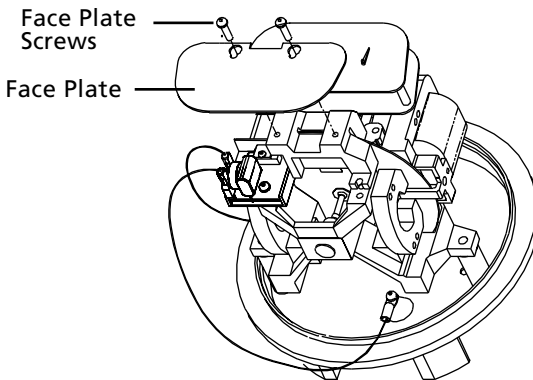

Figure 14. Attaching Face Plate
8. Replace the face plate and face plate screws. See Figure 14.